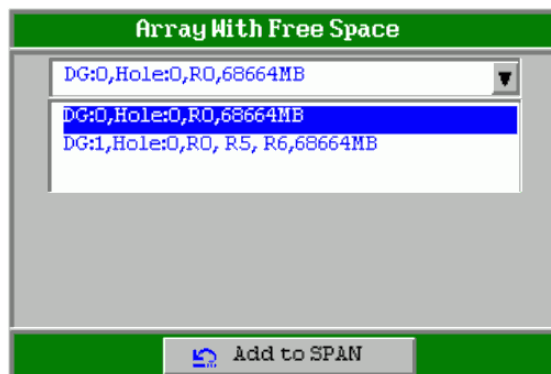

Figure 3-75 WebBIOS: Configuration Wizard custom Span definition
- f. In the Array With Free Space panel, shown in Figure 3-75, select the disk group for which you want to create a virtual disk.